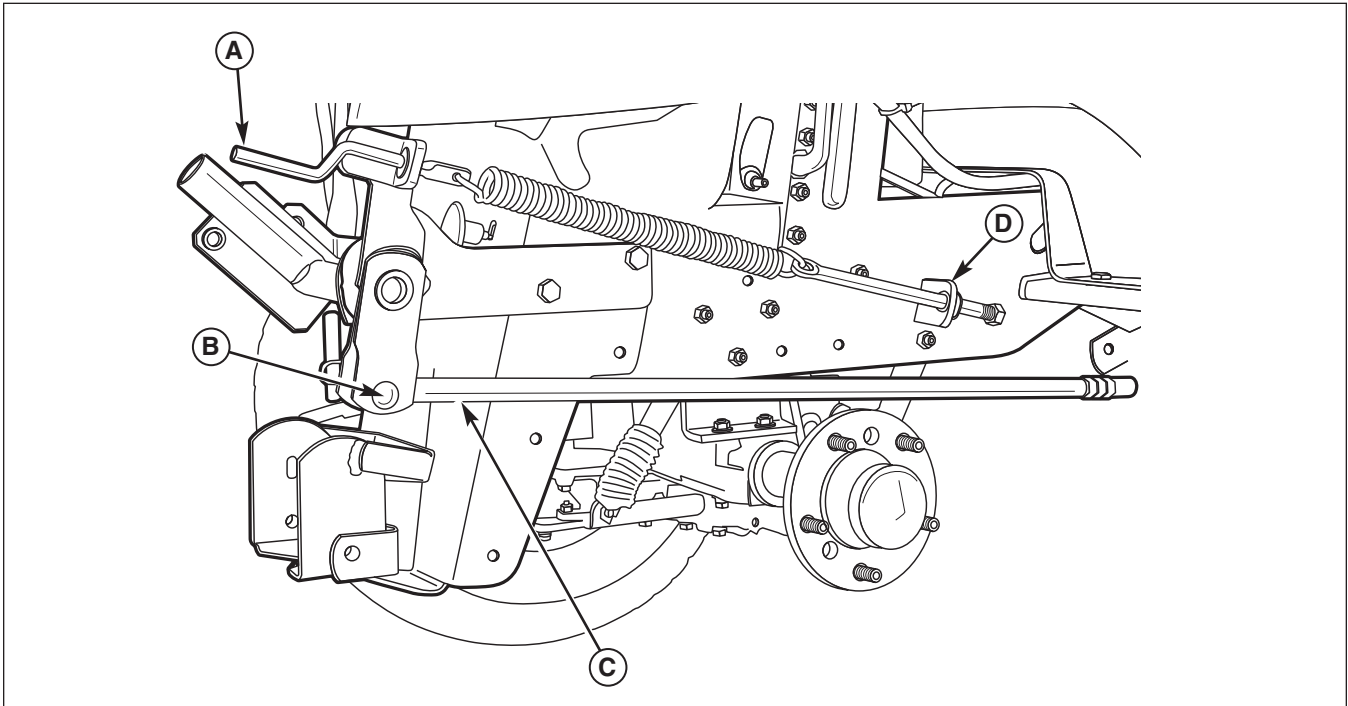

Figure 11. Lift Linkage Installation
1. Connect the rear of the lift rod (C, Figure 11) to the upper hitch. Secure with a clevis pin (B) and safety clip.
3. Mount the front bracket (D, Figure 11) to the frame using a 5/16-18 x 1 capscREW and nylock nut.
4. Secure the rear turn crank assembly (A, Figure 11) to the rear hitch using 3/8-16 x 1 carriage bolt and nylock nut.
5. Hook the spring to the turn crank (A) and put the threaded rod through the front bracket (D). Turn the crank until the nut is captured in the front bracket.